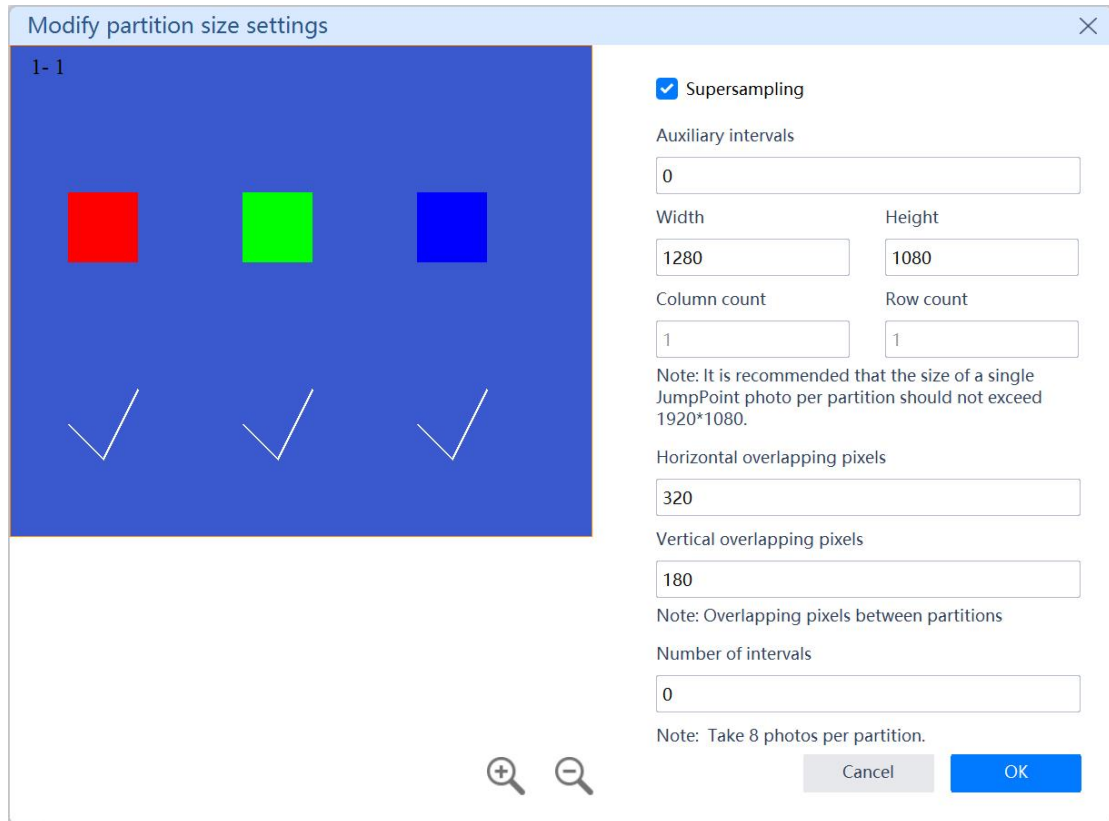

Fig.3-35 Modify the partition size
2) Once you have finished modifying the partition size, the number of intervals will automatically be calculated. You can find the number of photos that will be captured in each partition. See Figure 3-35.